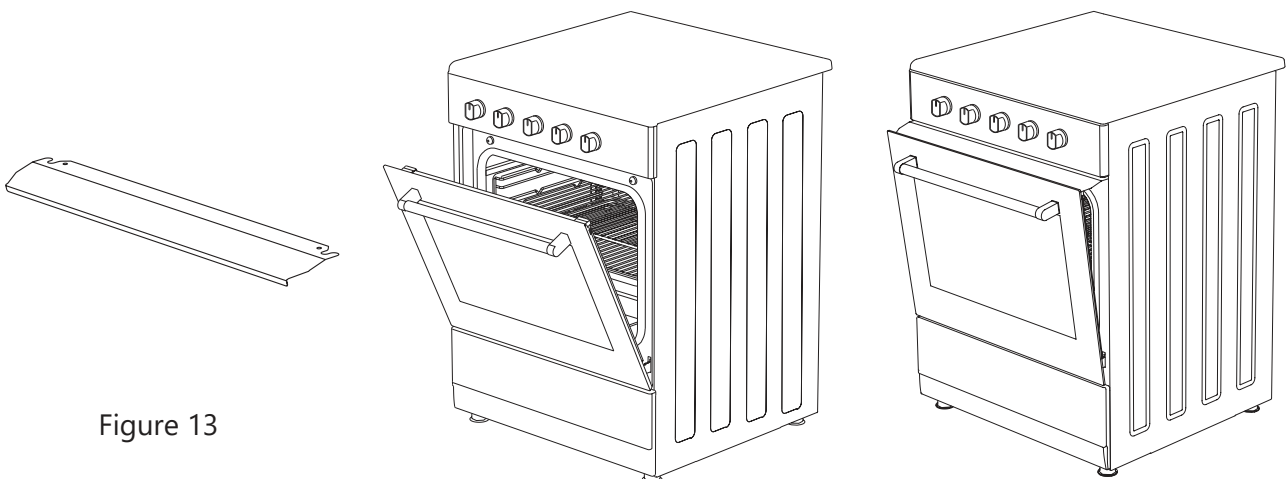

Figure 13
- When using the upper burner in the gas ovens, the oven door must be kept open as shown in the Figure 13. This grill sheet will protect the knobs and control panel.